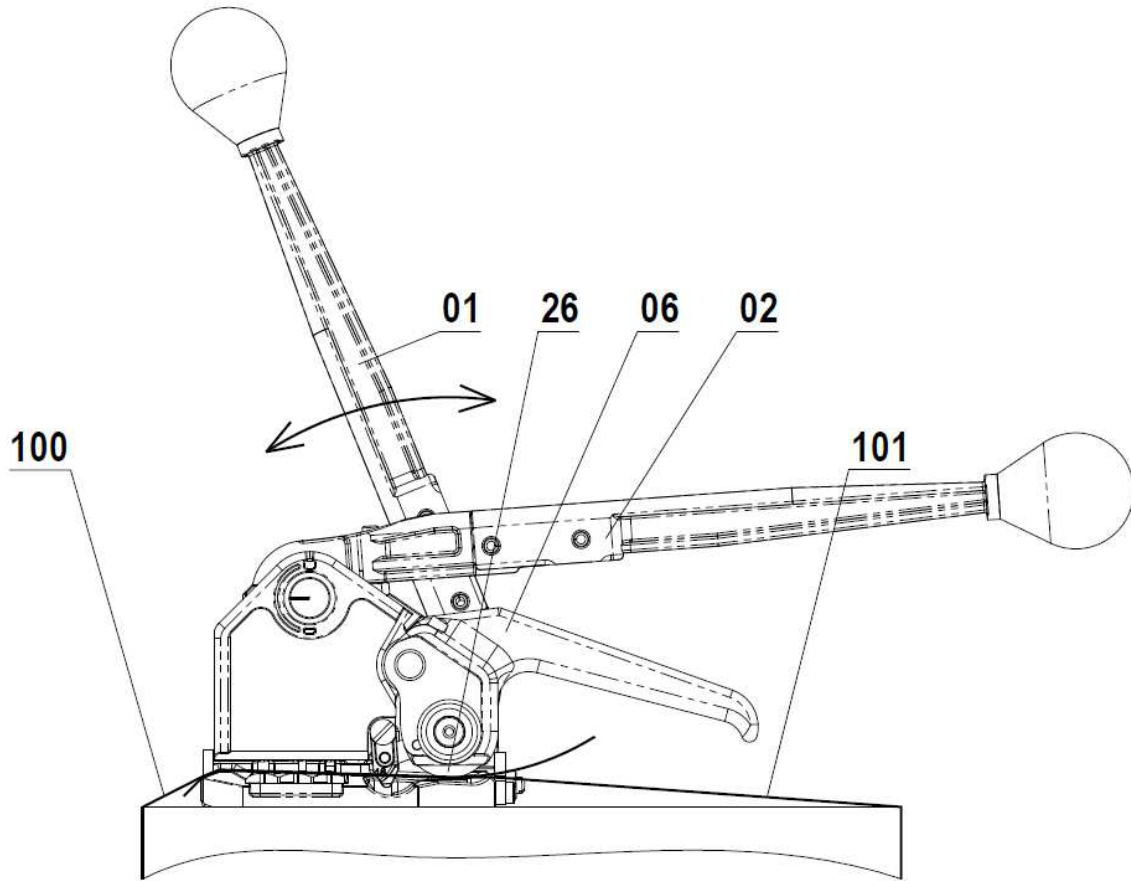

Fig. 3
2. Apply tension by ratcheting **Tension Handle 01** as shown on Fig. 3.